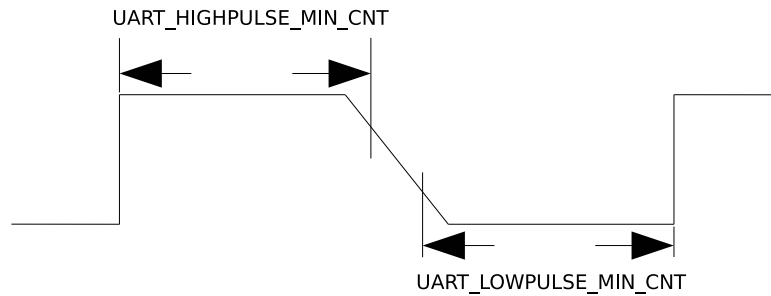

Figure 27.4-2. The Timing Diagram of Weak UART Signals Along Falling Edges
2. If UART signals are weak along falling edges as shown in Figure 27.4-2, which leads to an inaccurate average of `UART_LOWPULSE_MIN_CNT` and `UART_HIGHPULSE_MIN_CNT`, use `UART_POSEDGE_MIN_CNT` to determine the transmitter's baud rate as follows: